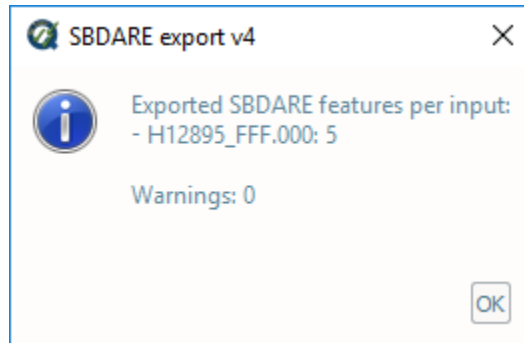

Fig. 2.30: SBDARE export’s output message.
- After computing, the output window opens automatically, and the results are shown. Any errors that occur while processing will appear in the output window. (Fig. 2.30):